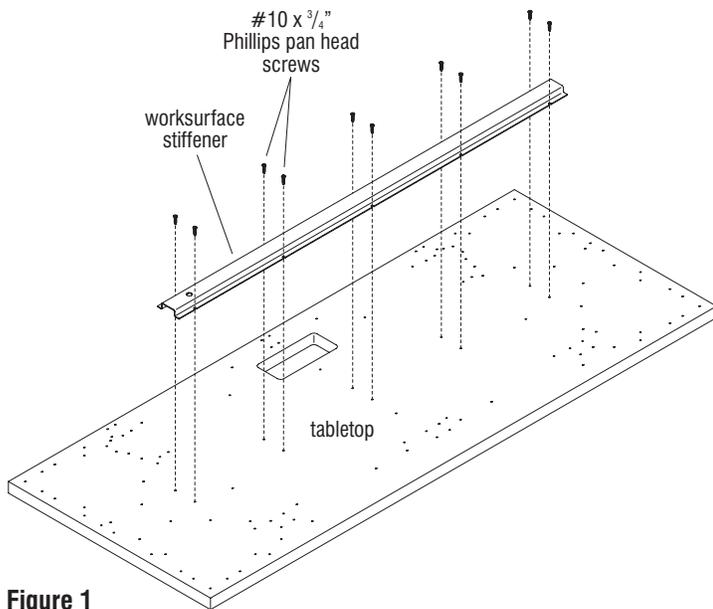

Figure 1
3. Place tabletop upside down on a soft, protective surface. Position a worksurface stiffener onto the center of the tabletop underside, aligning the stiffener mounting holes with the pre-drilled holes in the table. Secure stiffener to top using #10 x 3/4" screws through all stiffener mounting holes provided. If a second stiffener is required, repeat this step (Figure 1).